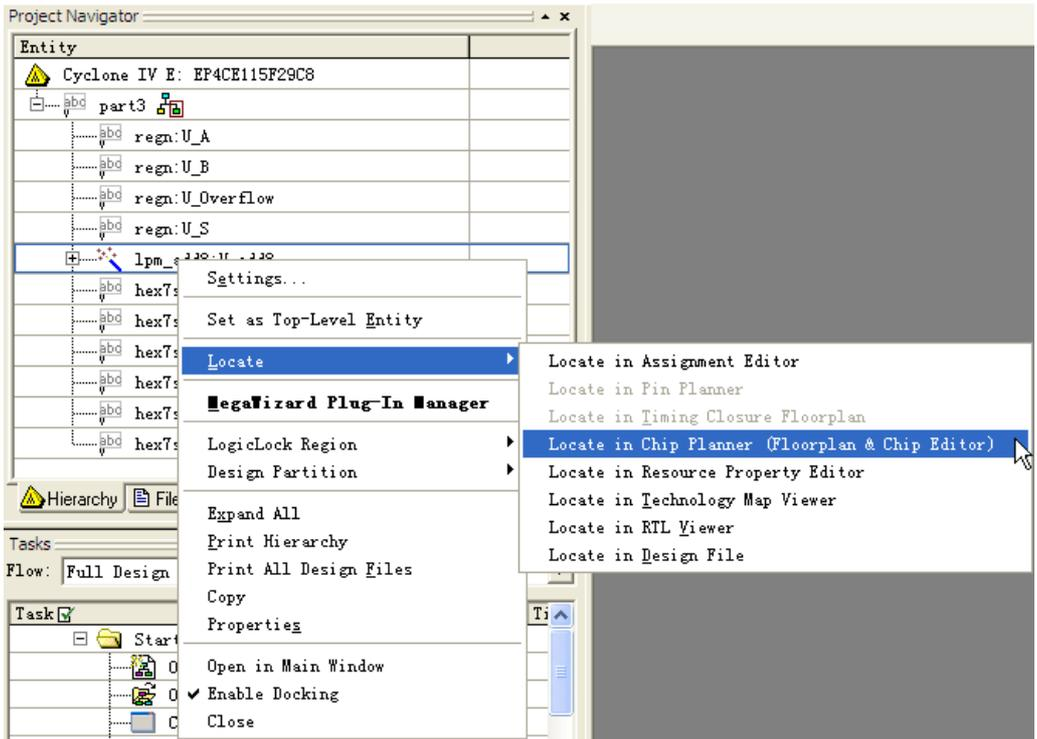
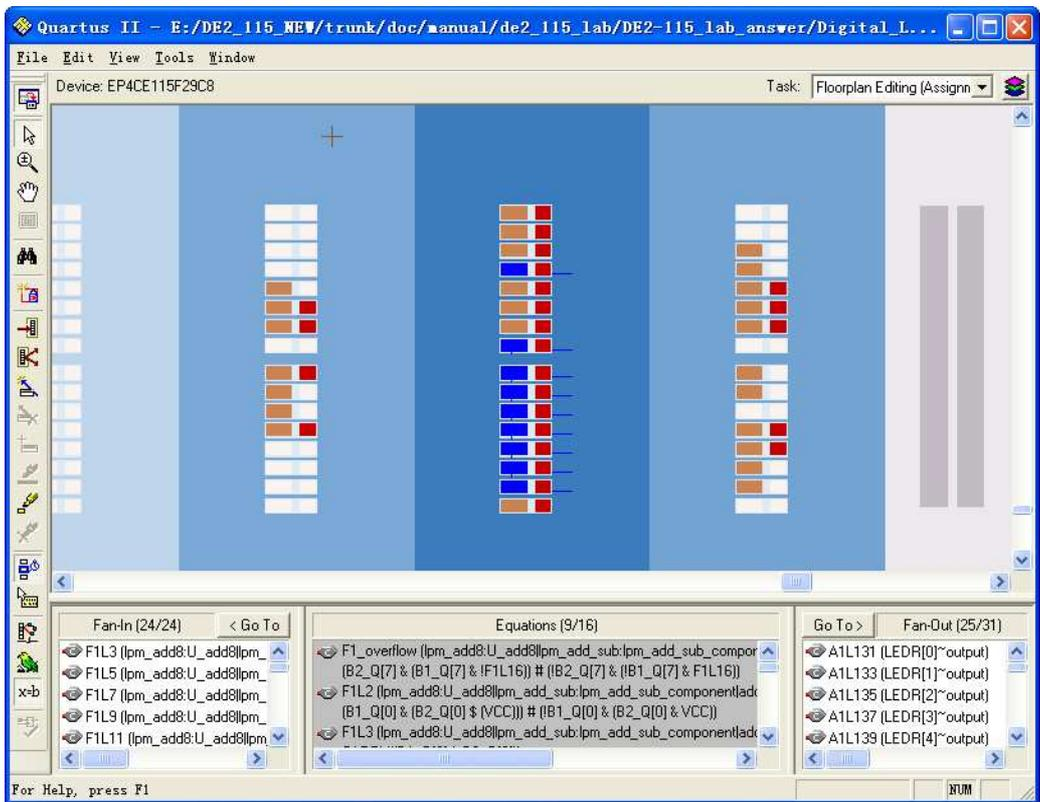

Figure 2. Locating the eight-bit adder in the Chip Editor tool.
Figure 3. The highlighted logic elements for the eight-bit adder.
1. Configure the `lpm add sub` module so that it performs only addition, to make the functionality comparable to Part I. Store your configuration of the `lpm add sub` module in the file `lpm add8.v`. After instantiating this module in your VHDL code, compile the project and use the Quartus II Chip Editor tool to examine some of the details of the implemented circuit. One way to examine the adder subcircuit using the Chip Editor tool is illustrated in Figure 2. In the Quartus II Project Navigator window right-click on the part of your circuit hierarchy that represents the `lpm add8` subcircuit, and select the command `Locate > Locate` in Chip Editor. This opens the Chip Editor window shown in Figure 3. The logic elements in the Cyclone IV FPGA that are used to implement the adder are highlighted in blue in the Chip Editor tool. Position your mouse pointer over any of these logic elements and double-click to open the Resource Property Editor window displayed in Figure 4. In the box labeled `Node name` you can select any of the nine logic elements that implement the adder module. The Resource Property Editor allows you to examine the contents of a logic element and to see how one logic element is connected others.